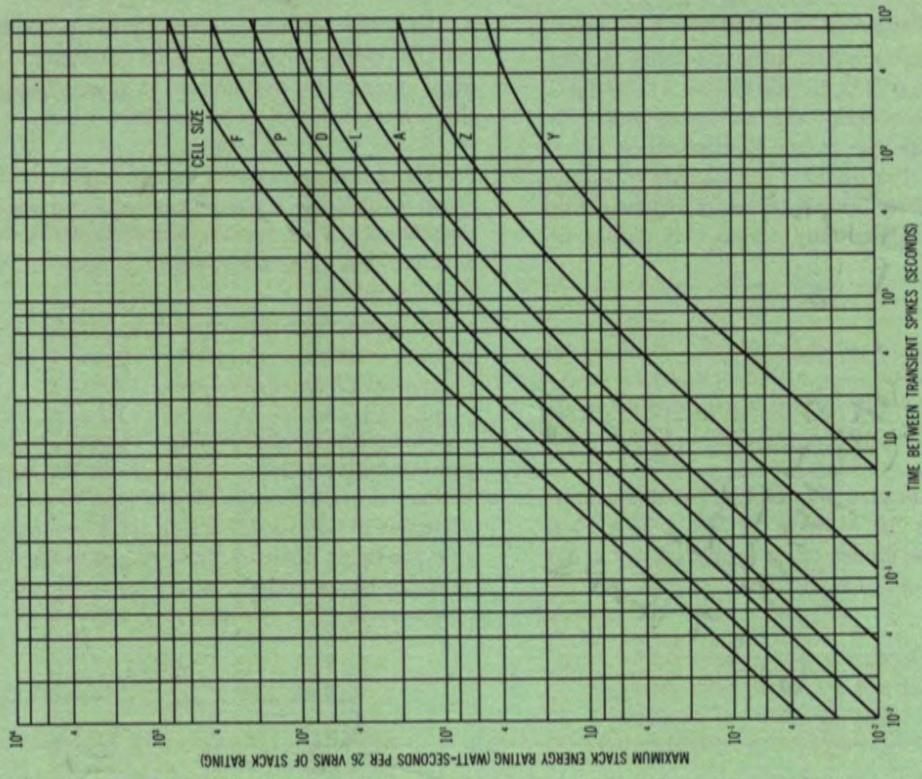

Fig. 8 — Stack Energy Rating Vs. Time Between Pulses —
4. Using the cell size derived by the procedure as outlined in (1), the operating voltage factor outlined in (2), and the clamping voltage factor outlined in (3), refer to Table 1 and construct the proper Klip-Sel code number.
5. Where transients occur on a repetitive basis, refer to Figures 8 and 9 (page 10) for non-polarized and polarized applications respectively. This curve gives the relationship between pulse duration energy, and repetition rate for each 26VRMS of Klip-Sel rating.